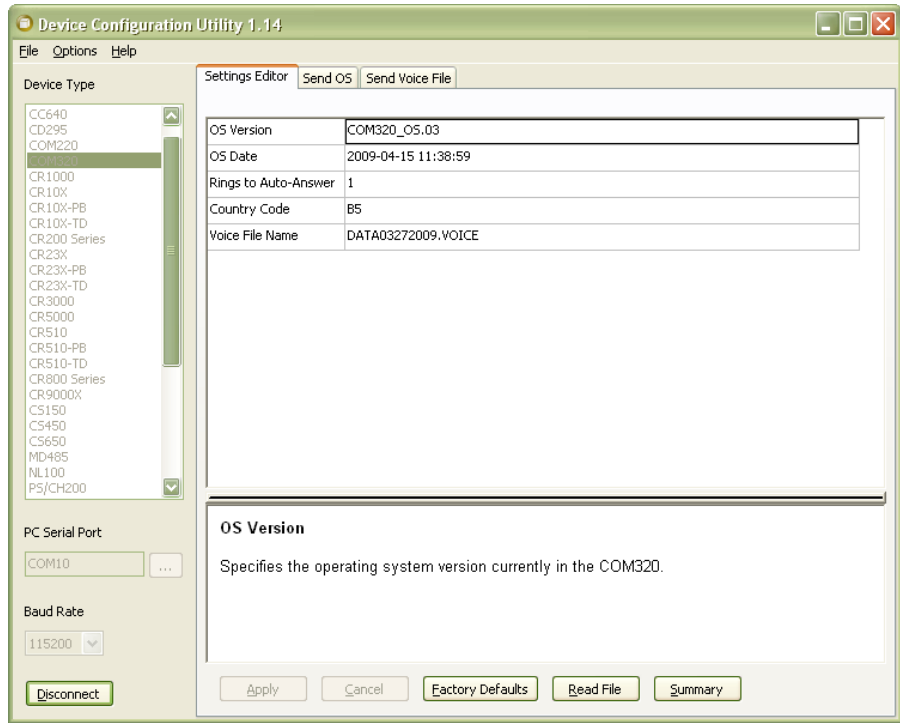

FIGURE B-3. Device Configuration Settings Editor
- 7) Click on the Connect button to connect to the COM320 and enter the settings editor (FIGURE B-3).